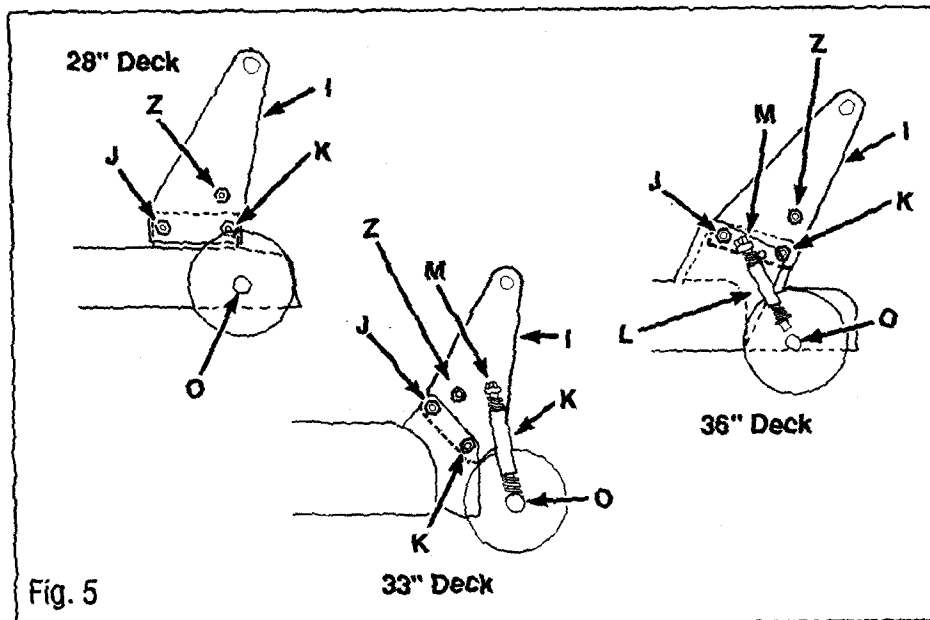

Fig. 5
1. **33" DECKS:** Place lift plate (I) on *inside* of bracket on mower deck (See Fig. 5).
28" & 36" DECKS: Place lift plate (I) on *inside* of bracket on mower deck (See Fig. 5).
2. Secure with flange screws & nuts at (J) & (K). *Nuts should face toward the inside of frame.*
3. **33" & 36" DECKS:** Place pivot (M) into desired height setting hole in lift plate (I) and secure with washer and spring pin. See **GAGE WHEEL ADJUSTMENT** to determine proper height.